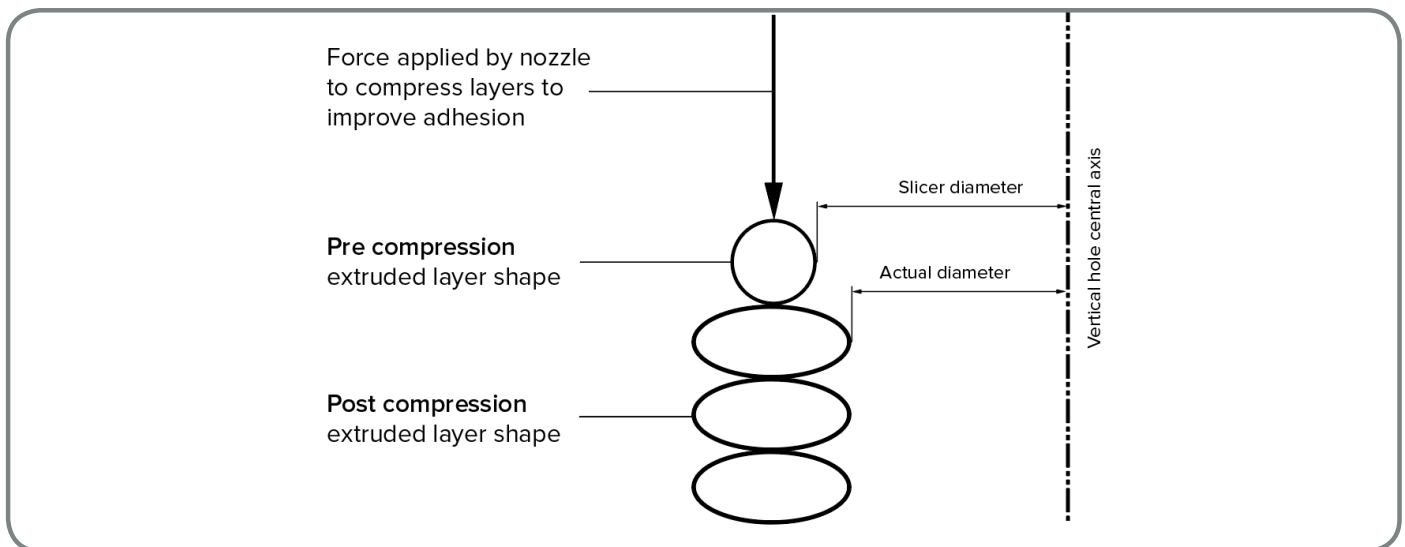

Figure 11, Layer compression
- As the nozzle prints the perimeter of a vertical axis hole, it compresses the newly printed layer down onto the existing build layers to help improve adhesion. The compressing force from the nozzle deforms the extruded round layer shape from a circle into a wider and flatter shape (see figure 11).